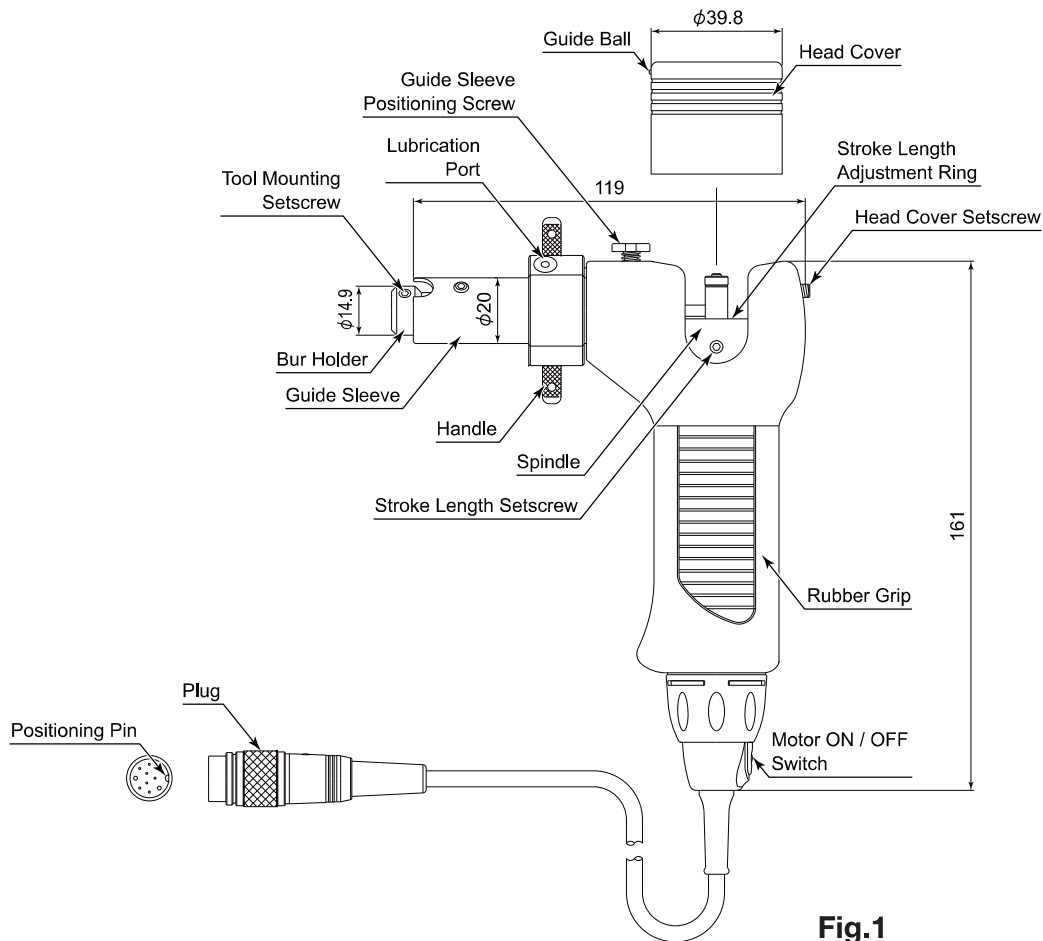

Fig.1
- Align the cord plug with the jack of the control unit and push in. **(Fig.1)**
ON/OFF of the motor can be made either at the grip or at the control unit. **(Fig.1)**
- ① Loosen the head cover setscrew with the supplied Allen Wrench (**Fig.1**).
- ② Slide the head cover upward and remove. (**Fig.1**).
- ⑥ Insert the head cover and push it down, aligning the guide groove on LUSTER and the guide ball on the head cover.
- ⑦ Fasten the head cover setscrew with the Allen Wrench (**Fig.1**).
- ⑧ Choose the motor speed in accordance with the stroke length as shown in Graph - 1.